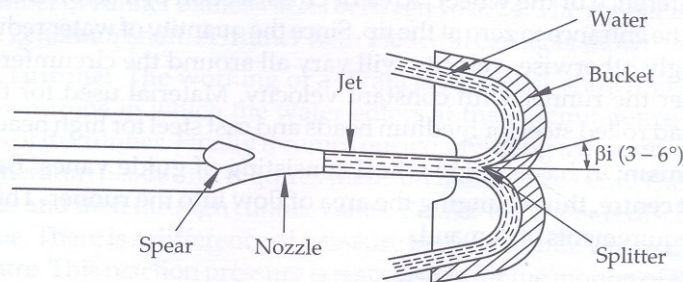

Fig. 7.2 Bucket
(1) **Runner with Bucket:** The runner of a pelton turbine consists of a number of double cupped buckets fixed to the periphery of the wheel. Each bucket has a sharp edge at the centre called the splitter. The jet strikes each bucket at this splitter and is divided into two sides, thus avoiding any unbalanced thrust on the shaft. It is shown in Fig. 7.2.